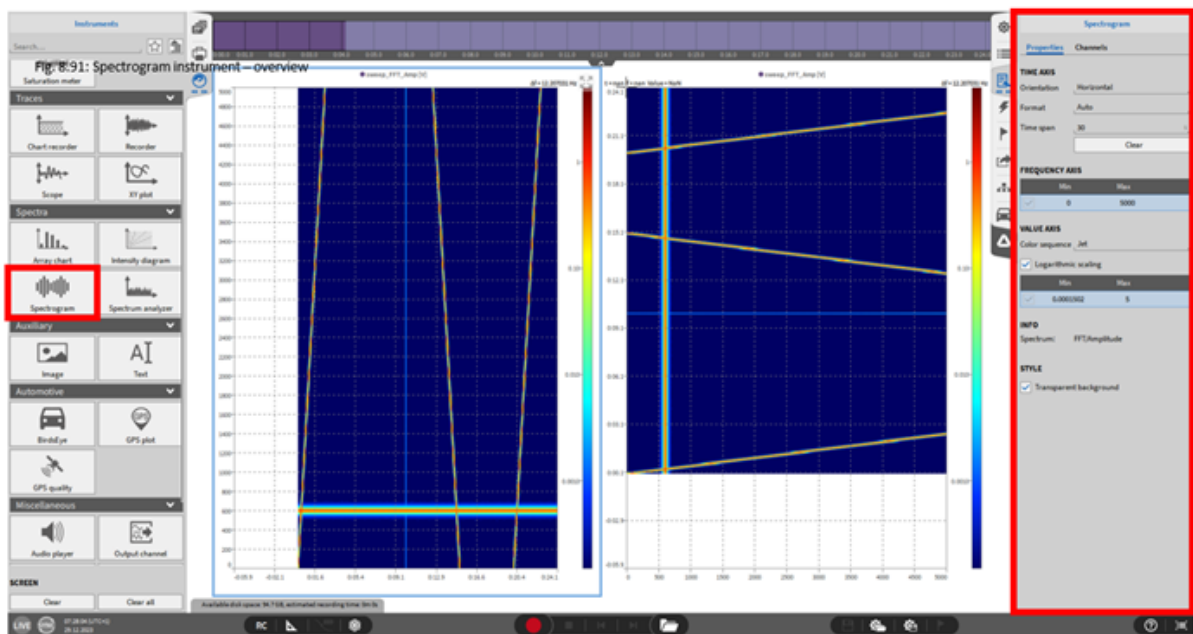

Fig. 8.95: Spectrogram instrument – overview
The elapsed time is displayed on the X-axis, the frequency on the Y-axis and the amplitude of the signal is Color-Coded to the Z-Axis (Left instrument in Fig. 8.95).
- Time Axis – Orientation: *Horizontal* orientation assigns the time axis to the X-axis of the instrument (see left instrument in Fig. 8.95) and *Vertical* orientation assigns the time axis to the Y-axis of the instrument (see right instrument in Fig. 8.95).